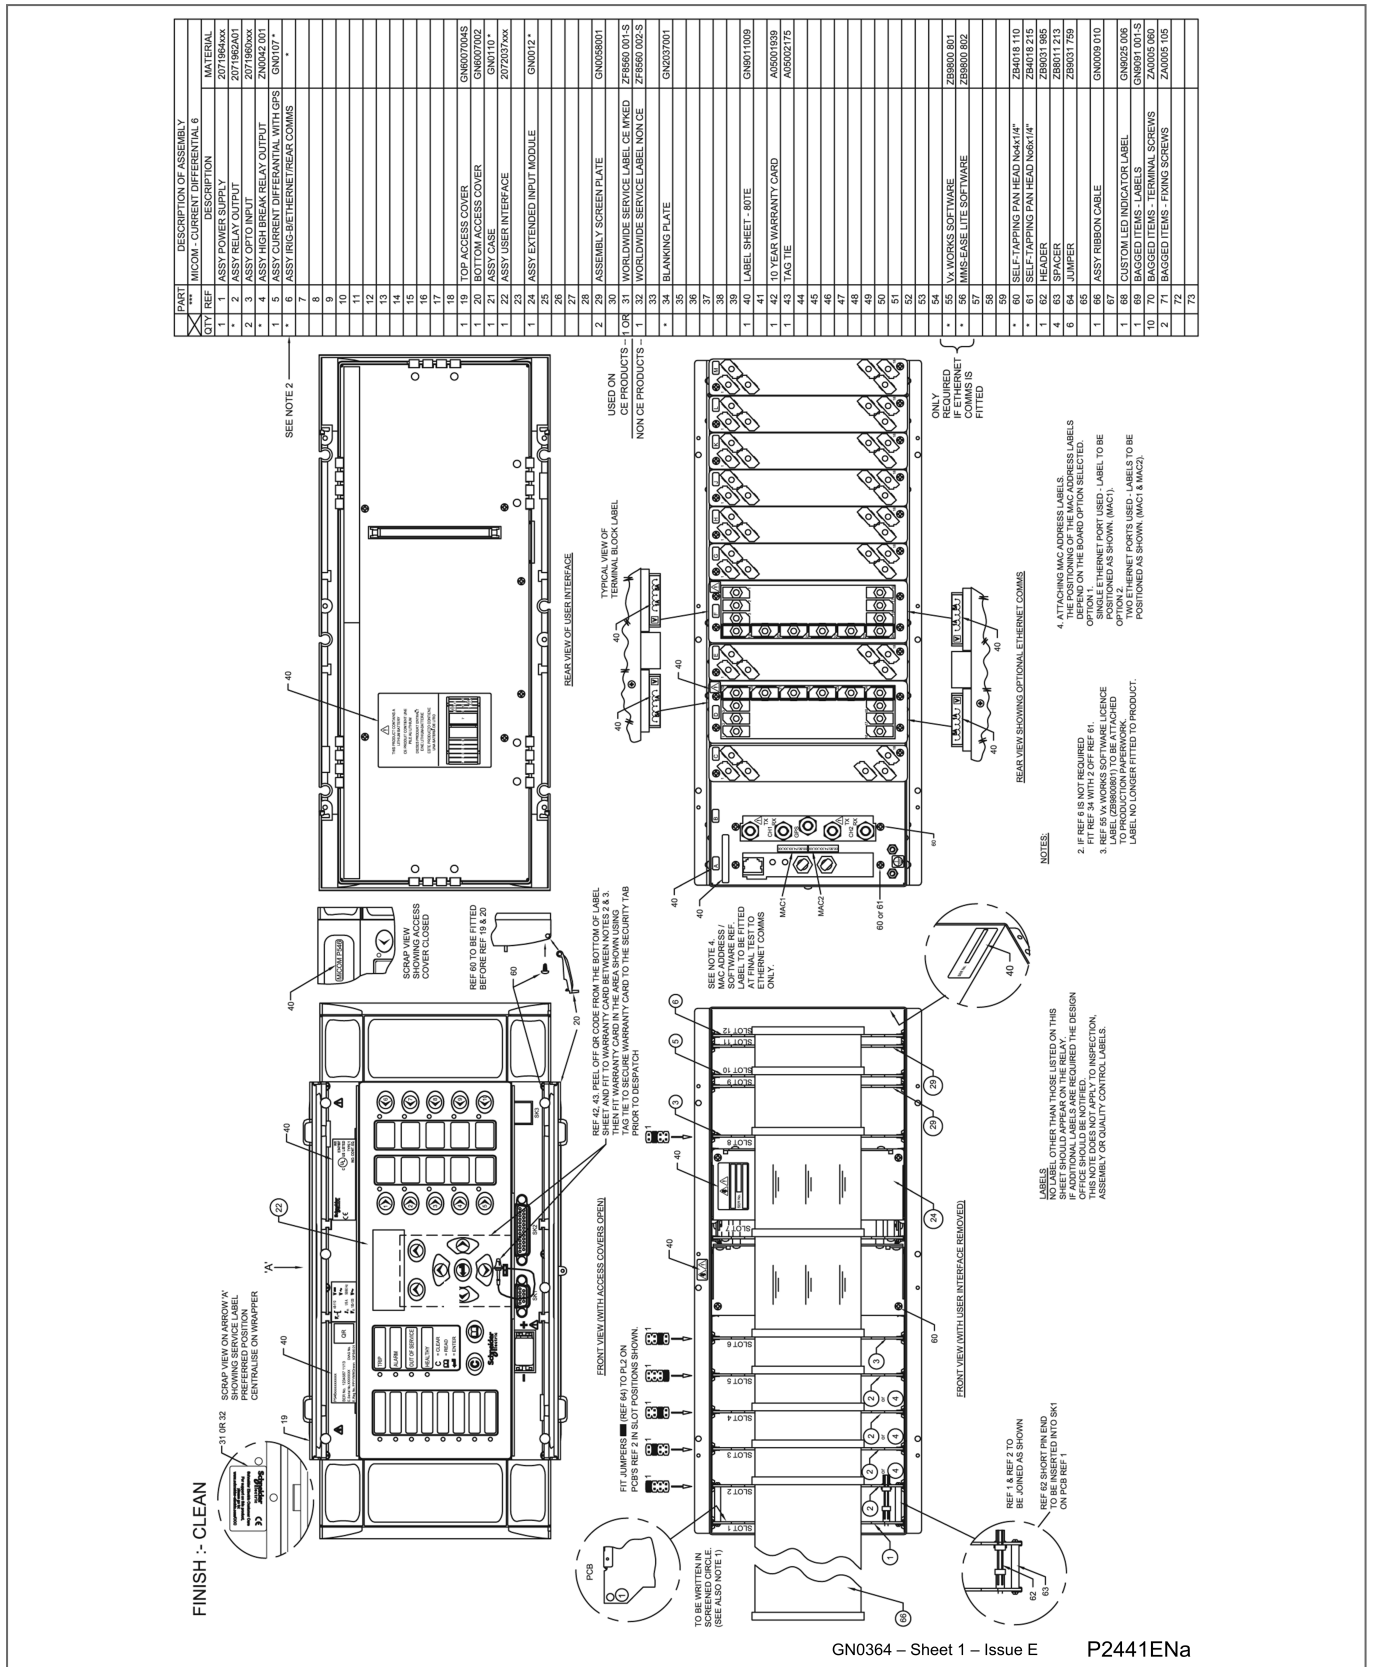

Figure 27 - P546 Final assembly drawing
- Figure 27 - P546 Final assembly drawing